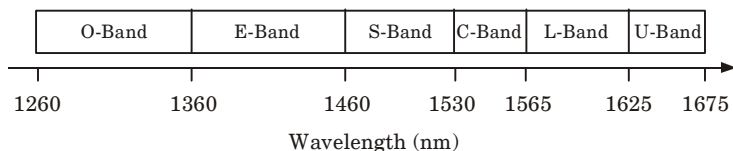

Fig. 1.1.1. Designations of spectral bands used for optical fiber communications.
3. Fig. 1.1.1 shows and Table 1.1.1 defines the regions which are known by the letters *O*, *E*, *S*, *C*, *L* and *U*.